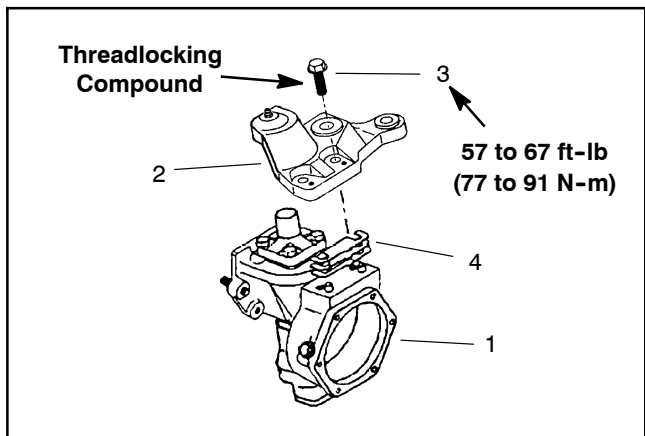

Figure 22
4. Remove the axle case support mounting screws, the axle case support and the support shims (Fig. 22).